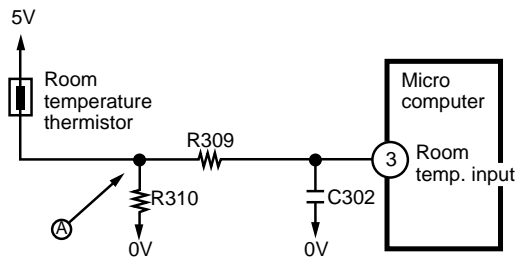

Fig. 5-1
- Fig. 5-1 shows the room temperature thermistor circuit.